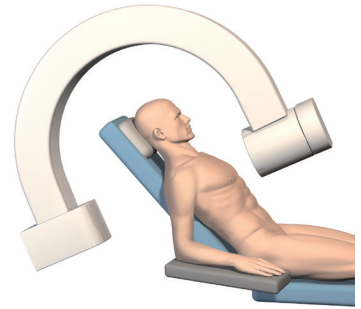

fig. 1
- The C-arm is placed longitudinally at the patient's head (**fig. 1**).